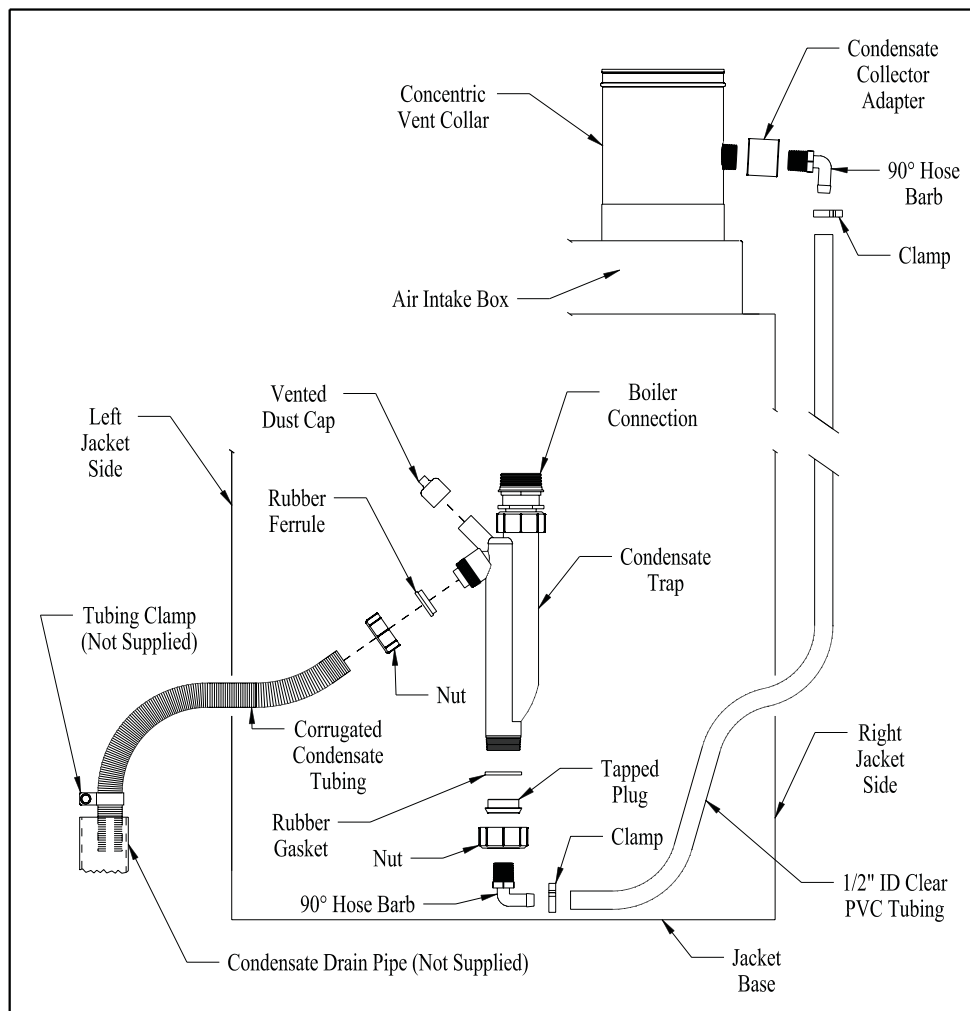

FIGURE 1.15: CONDENSATE DRAIN LINE ASSEMBLY
- s) Reinstall the gasket ring onto the tapped condensate trap plug. Insert the tapped plug (which has the barbed hose fitting attached to it) in the base of the trap in place of the original plug. Slide the other end of the clear plastic tubing over the hose barb and attach the hose clamp. (Figure 1.15)
8) Condensate Drain Line - In systems where a concentric vent is used, all condensate which forms in the boiler or vent system collects in both the condensate vent adapter and the sump under the heat exchanger and leaves the boiler through the condensate trap. This trap allows condensate to drain from the boiler and vent while retaining flue gases. A length of corrugated drain hose is supplied with the boiler and is connected to the trap as shown in Figure 1.15. This hose may be routed through the back of the boiler or to the left side through the knockout provided. Route this hose to a drain or other suitable point for disposal. Note the following when disposing of the condensate:
- a) If the condensate drain line must be extended, construct the extension from PVC or CPVC pipe. Insert the hose provided with the boiler into the end of the extension as shown in Figure 1.15.
- f) Do not attempt to move the trap from the location shown in Figure 1.15. Do not attempt to substitute another trap for the one provided with the boiler.
- g) The vent shown in Figure 1.15 must be left open for the trap to work properly.